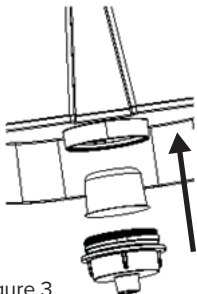

Figure 3
4. Place the charcoal water filter with the rounded bottom facing down into the charcoal water filter cartridge. See Figure: 3.